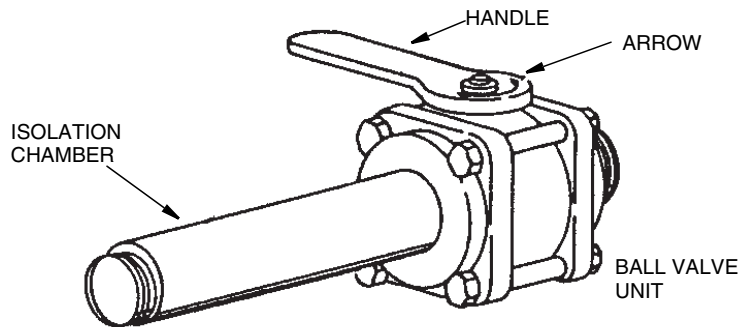

Figure 17. Closing Ball Valve
1. Turn the handle on top of the ball valve unit (see Figure 17) to the **close** position (indicated by an arrow on the handle).
5. Slowly turn the handle on top of the ball valve unit (see Figure 17) to the **open** position (indicated by the arrow on top of the handle).